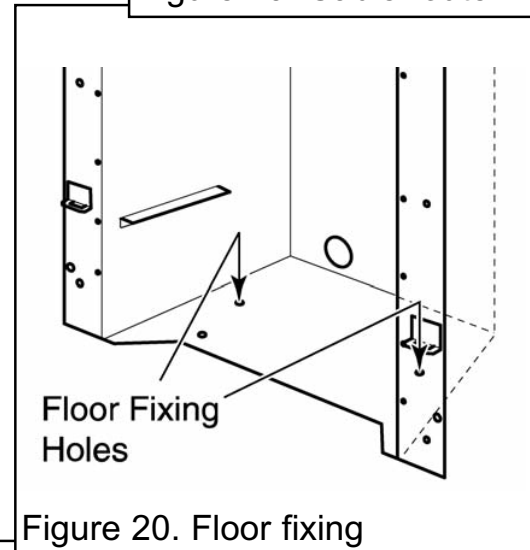

Figure 20. Floor fixing
8. Drill a hole into the fireplace floor through each of the two holes in the base of the hotbox using a suitably sized masonry drill bit for the fibre / wooden plugs supplied (See figure 20).